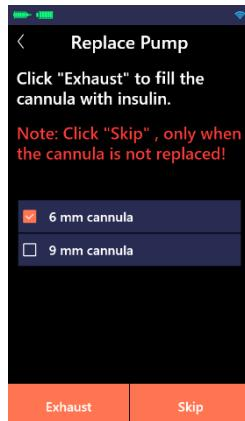

Figure A.9.7
(7) Exhaust. Select the length of the soft cannula you are using and then click "Exhaust", the insulin will fill the soft cannula (Figure A.9.7).